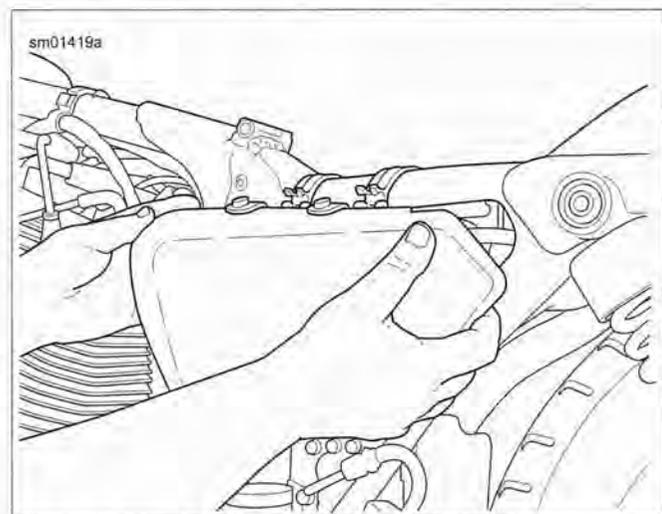

Figure 2-139. Removing Left Side Cover: All Models (XL Model Shown)
- See Figure 2-139. Lift side cover up and tilt cover to the rear of the motorcycle. With a slight back and forth rocking motion, pull up gently until cover disengages from mounting tab on battery tray.